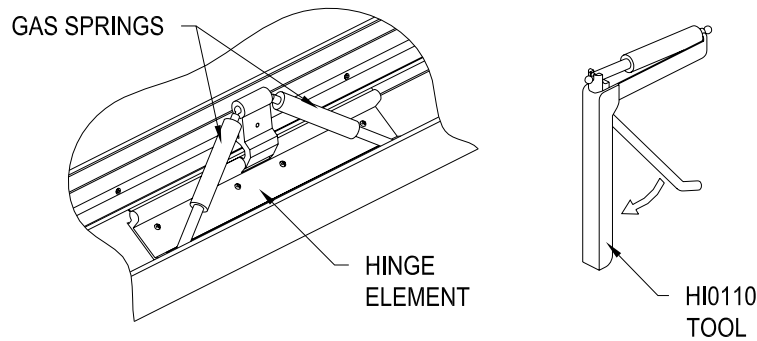

Figure 20. Gas Springs
3. Remove the failed gas spring with a HI0110 tool as shown in Figure 20. DO NOT attempt to remove or install a gas spring without using the HI0110 installation tool.
4. Installation the replacement gas spring in the hinge element oriented as shown in Figure 20 with the HI0110 tool. It is important that the rod end of the gas spring faces down.